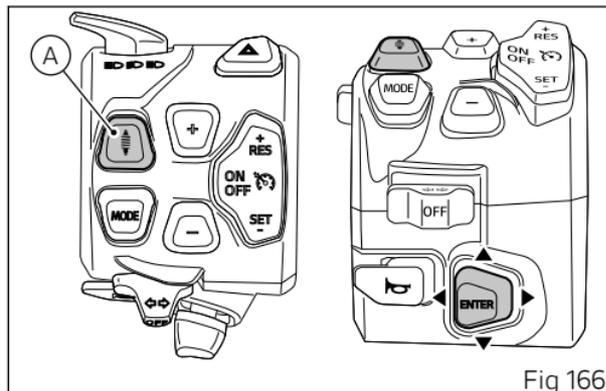

Fig 166
- Press button (A, Fig 166) to activate the specific menu.